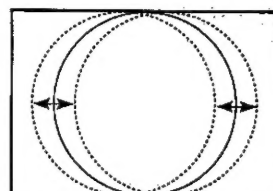

Fig. 3
- Adjust the horizontal amplitude to obtain 9% overscan (fig. 3).